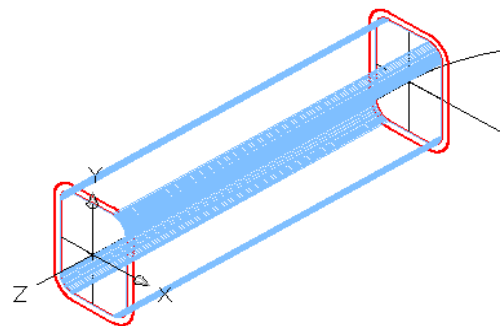

Figure Step 11
Step 11 With the UCS located on the Front, SURFTAB1 set to 48 and layer: Surface 1 as the current layer, enter the TABSURF command, as shown below, to create the surface for the inside of the tube. (Figure Step 11)